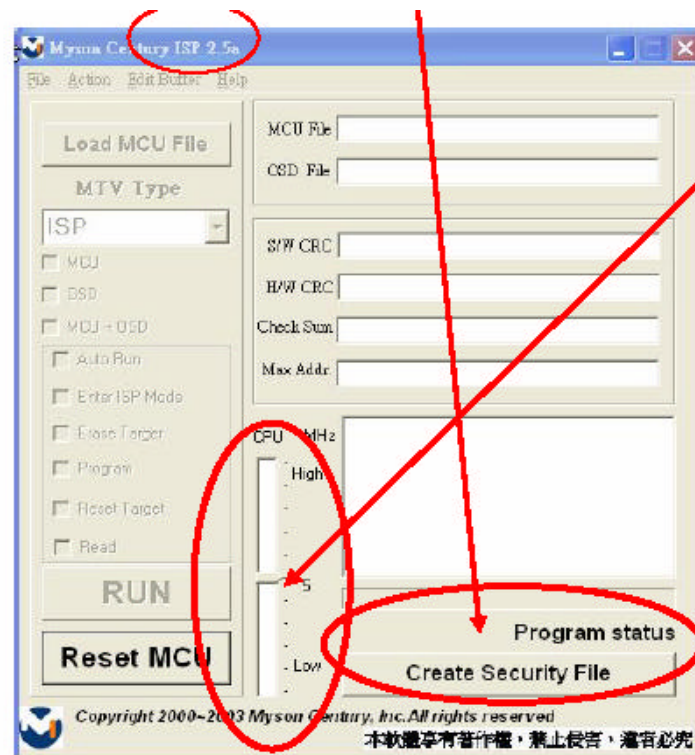

Fig 2.4
- 8.4 Press “Create Security File” button to key in **Security code** . Adjusting bar to decrease speed of **IIC bus** , See Fig. 2.4 .